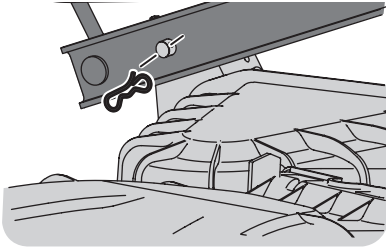

Figure 42
11. Looking at the deck from the left side of the tractor, locate the bow-tie pin on the rear left side of the deck. See Figure 42.
12. Remove the pin and slide the deck pin out of the deck lift arm. See Figure 42.